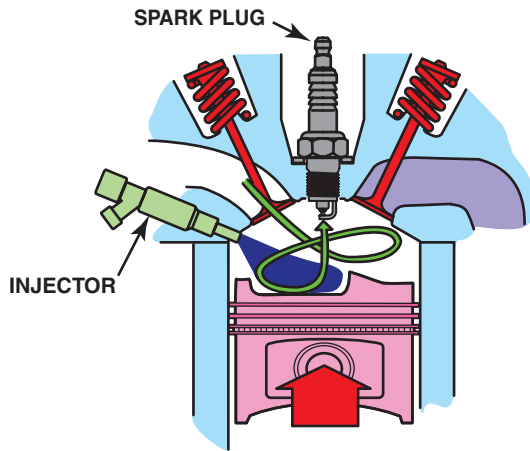

FIGURE 21-7 The side injector combines with the shape of the piston to create a swirl as the piston moves up on the compression stroke.
- **Swirl combustion.** This design uses the shape of the piston and the position of the injector at the side of the combustion chamber to create turbulence and swirl of the air-fuel mixture. ● **SEE FIGURE 21-7.**